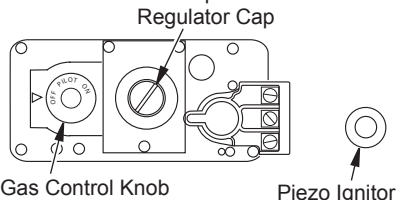

Figure 33 - Control Valve Millivolt
4. Push in gas control knob slightly and turn clockwise  to OFF (see Figure 33).
5. Wait five (5) minutes to clear out any gas. Then smell for gas, including near